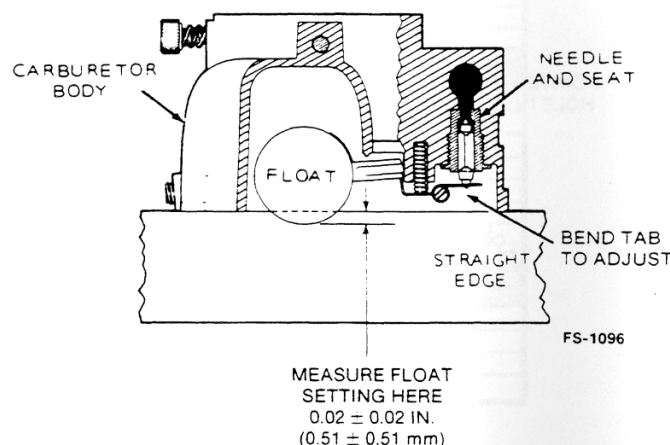

FIGURE 20. CARBURETOR FLOAT SETTING
4. Invert the carburetor and check the float setting (see Figure 20). The float should be 0.02 ± 0.02 inch (0.51 ± 0.51 mm) above the machined mating surface (without gasket). Bend the float tab as required.
5. If it is necessary to reset the float level, loosen the screw near float valve axle (pin) and bend the float arm near float valve axle (pin) to position float flush with top edge of carburetor float bowl. See Figure 20.